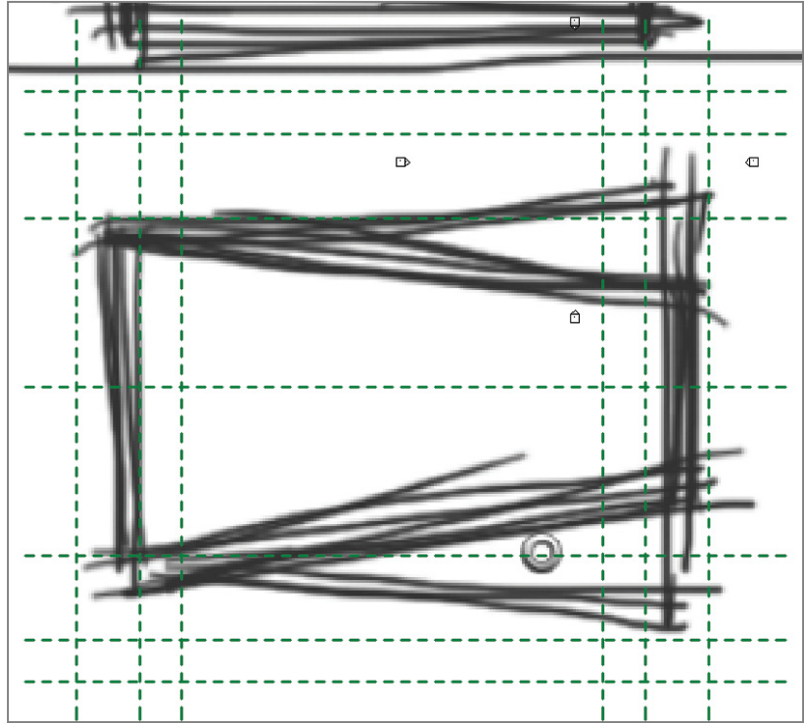

FIGURE 7.14 Reference planes in the Level 1 view
5. Open the Level 1 view, and then drag a final copy of the detail group into the view. Now center the plan sketch in the reference planes you created, as shown in Figure 7.14. Now you have the three views necessary for massing the building.